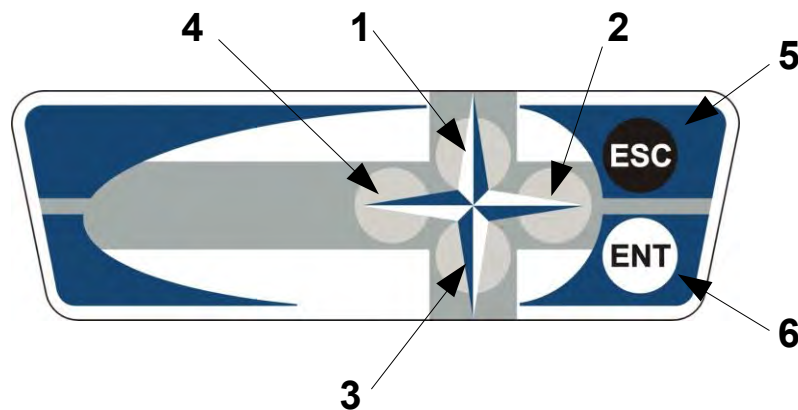

Figure 1
- Select the **Warm-Up** program with the motion buttons (**UP**, **DOWN**, **LEFT**, **RIGHT**) until **Warm-Up** (blue box) is highlighted. Confirm your selection by pressing **ENTER** (see Figure 1).
- To cancel the Warm-Up program at any time press the **ESCAPE** button (see Figure 1) and follow the instructions from LCD screen.
- To move up/down in the submenu, use the **UP or DOWN** buttons (see Figure 1). To select different settings use the **LEFT or RIGHT** buttons.
- Move with the motion buttons until the **Service** box is highlighted and confirm your selection with the **ENTER** button (see Figure 1).
- To move up/down in the submenu, use the **UP or DOWN** buttons (see Figure 1). To select different settings, use the **LEFT or RIGHT** buttons. To go back to the previous menu, press the **ESCAPE** button.
- Move **UP** or **DOWN** buttons until the **INSTALL** box is highlighted and confirm your selection with the **ENTER** button (see Figure 1).
- In Premenu, move with the motion buttons until **Programs** (blue box) is highlighted and confirm your selection by pressing **ENTER** (see Figure 1).
- To move up/down in the submenu use the **UP or DOWN** buttons (see Figure 1). Press **ESCAPE** to go back to the previous menu. To select the program press the **ENTER** button.